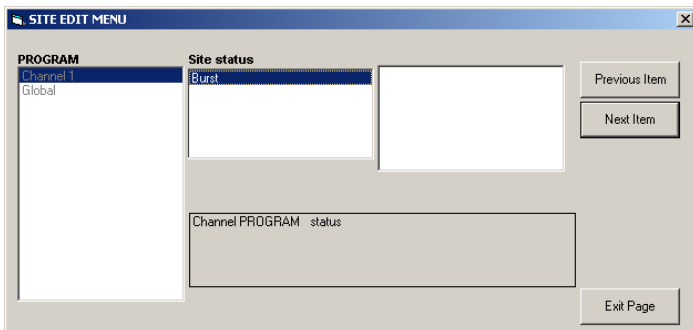

Figure 44: Status option in the channel menu
2. Highlight and double-click on the status option in the center pane. The window now appears similar to *Figure 44* below.